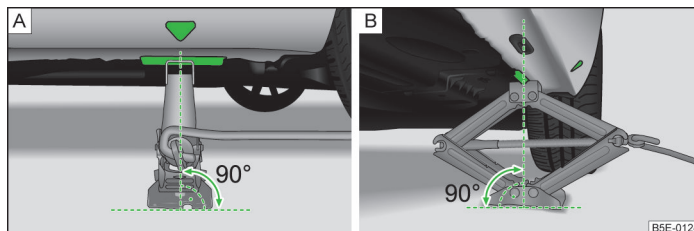

Fig. 192 **Attach lifting jack**
- Align the lifting jack so that its claw grasps the web » Fig. 192 - [B].
- Support the base plate of the jack with its entire surface resting on level ground and ensure that the lever is located in a vertical position to the area where the claw grasps the web » Fig. 192 - [A].